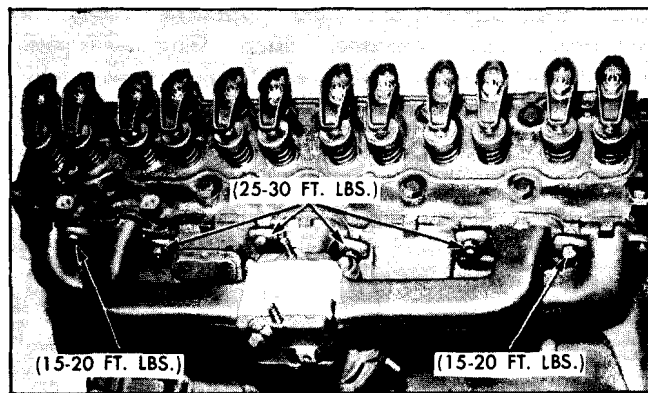

Fig. 6-30 Manifold Attaching Points
10. Clean manifold gasket surfaces and install new gasket over manifold studs. Position manifold and slide it into place over the studs, making sure it seats against the gasket. Install bolts and clamps and tighten as shown in Fig. 6-30.